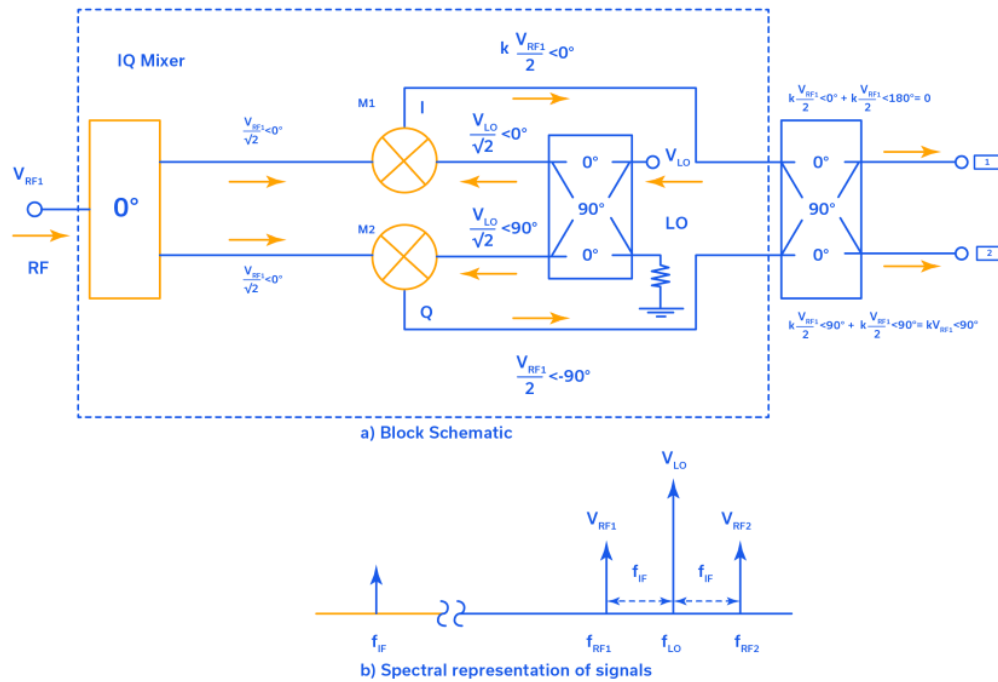
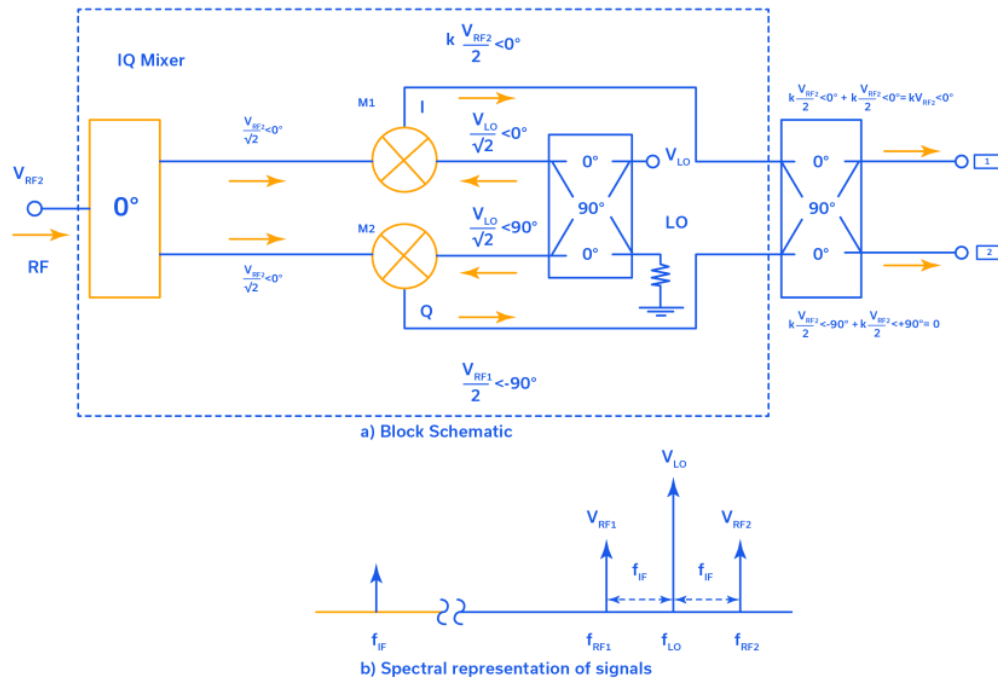

Figure 6: Image reject mixer schematic and spectral representation for desired RF signal. (RF1)
Figure 7: Image reject mixer schematic and spectral representation for unwanted image signal (RF2)
Figure 6 shows an image reject mixer (IRM), which consists of an I&Q mixer and an external 90° hybrid operating at the IF frequency. It also shows the various signal paths through the circuit. Here's a brief play-by-play.
2. The LO signal is split into two signals of equal amplitude but differing in phase by 90° in the internal 90° hybrid, again, just as in Figure 6.
From Figure 6, we can see that desired IF signal due to RF1 goes to Port 2, and from Figure 7, we can see that undesired IF signal from the image goes to Port 1. This allows the designer to terminate the undesired signal at Port 1 of the external 90° hybrid into 50Ω, and keep the desired IF signal at Port 2.